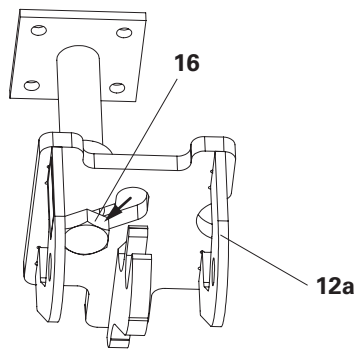

Fig. B1.03a
1. Insert bolt ISO 4014-M24 x 100-8.8 (16) on the side of the slot through Suspension Head Flex VGK (12a) and screw it lightly onto Anchor Sleeve M24 (13). (Fig. B1.03a)